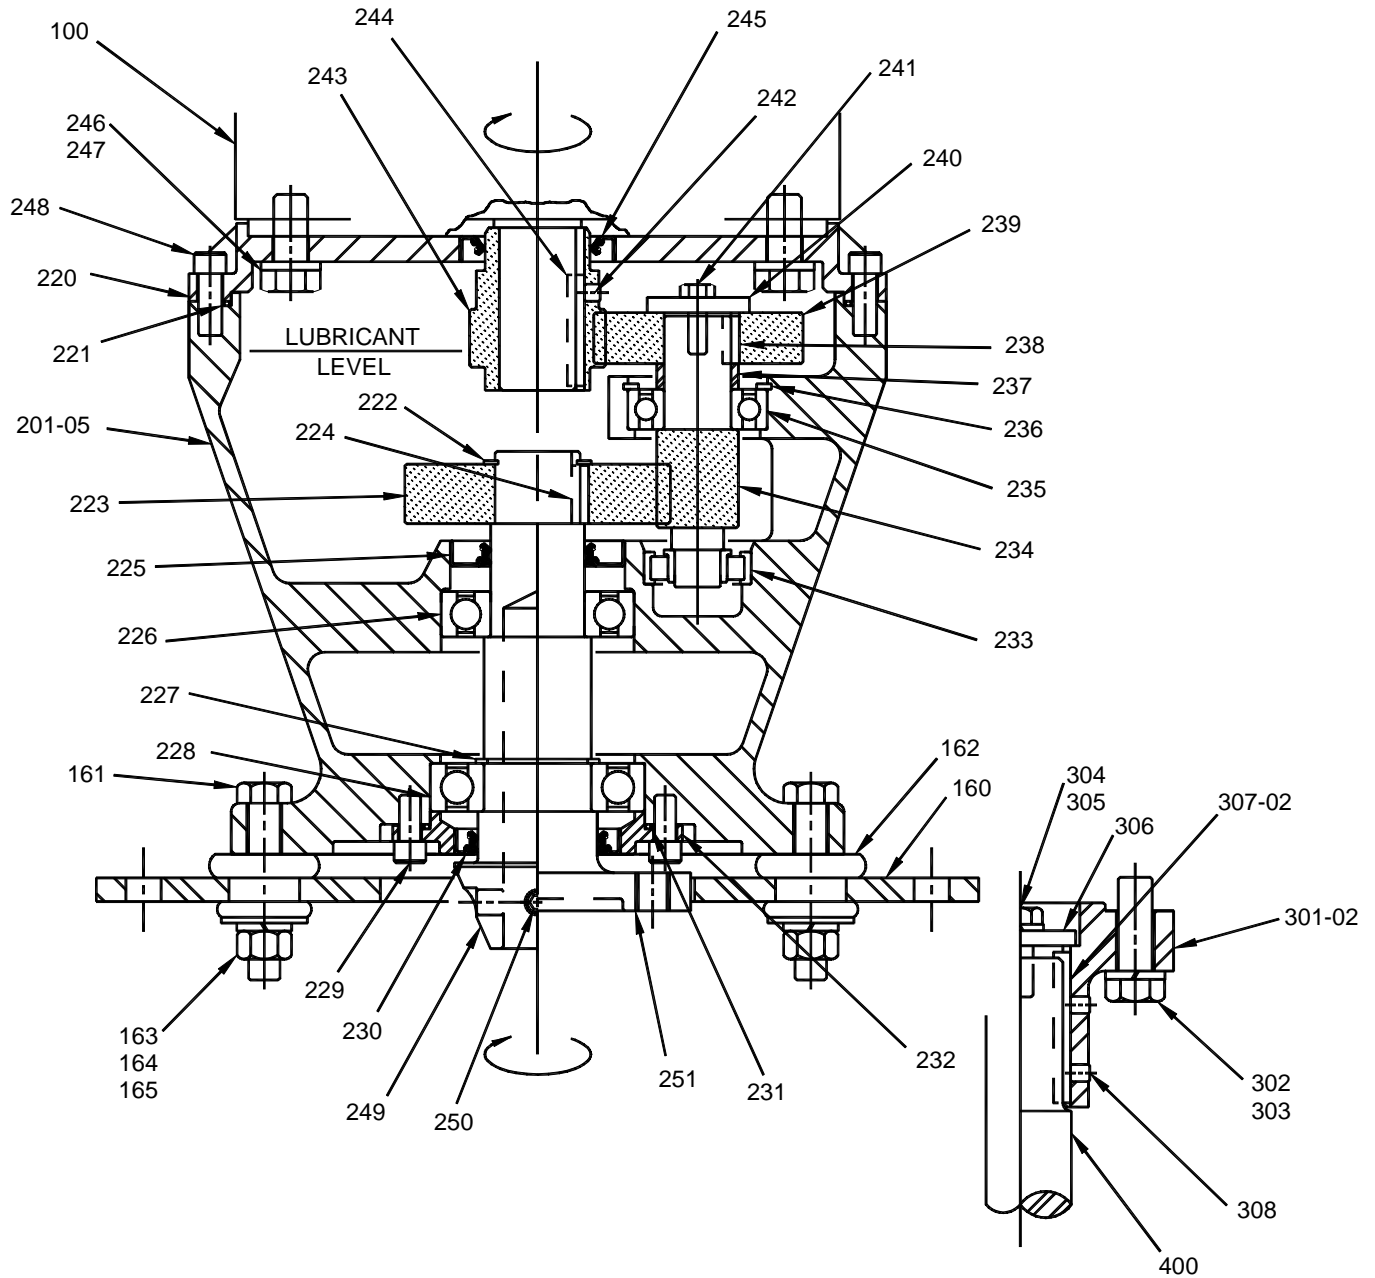

Figure 4: Model 50DTD
2. Remove the flat plate assembly [160] components from the shipping carton and assemble to drive housing [201-05] as shown in *Figure 4, page 11*. Mount drive to support structure using customer supplied fastener set (1/2" bolts).